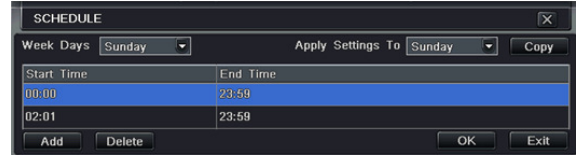

Fig 4-16 Schedule-Week Schedule
Step2: Select channel and double-click to pop up a window as Fig 4-16. Now you can edit week schedule: